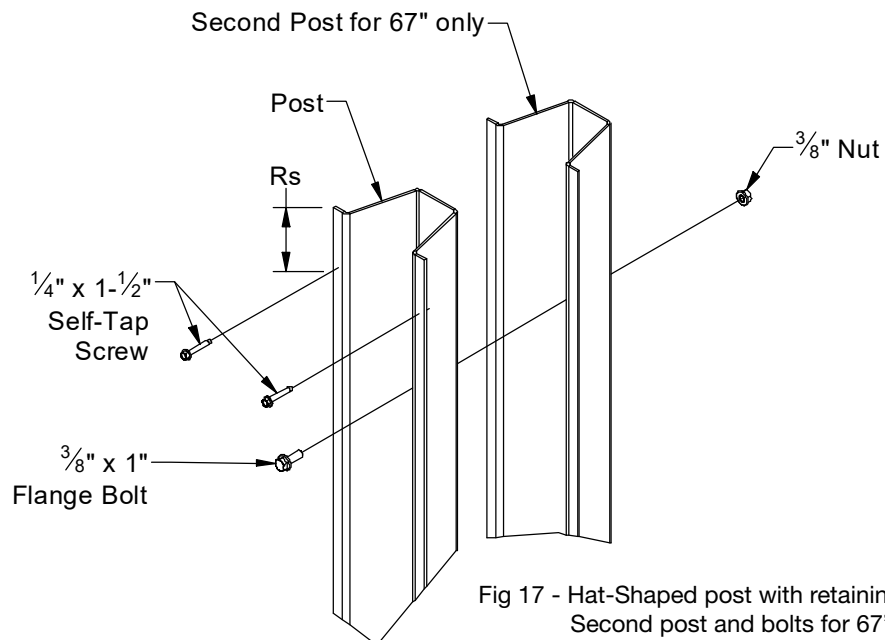

Fig 17 - Hat-Shaped post with retaining screws. Second post and bolts for 67" system only
Each post location is comprised of two posts bolted together with 3/8 x 1" bolts. See Figure 17.
3. Prepare the hat-shaped posts by drilling a 1/4 x 1-1/2" self-tap screw into each flanged wings of the post, approximately 3-8" from one end (See Table 3). These retaining screws will work with the support post clips in the next section to prevent the support post from slipping into the concrete pier while concrete is setting. See Figure 17.